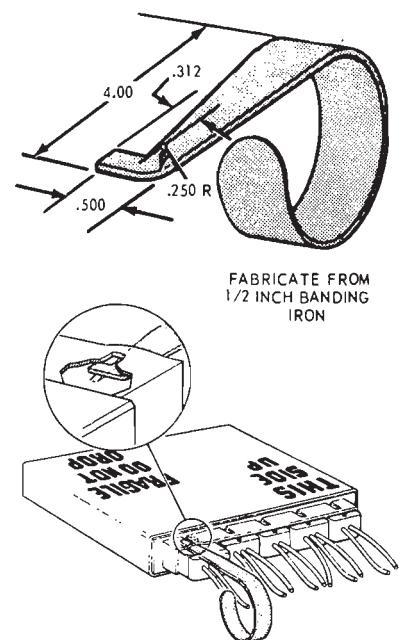
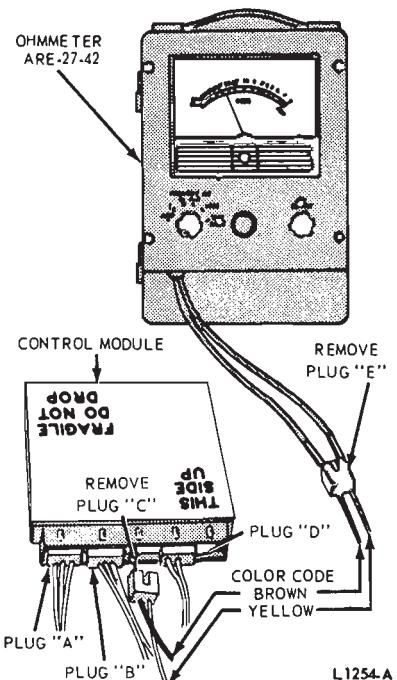
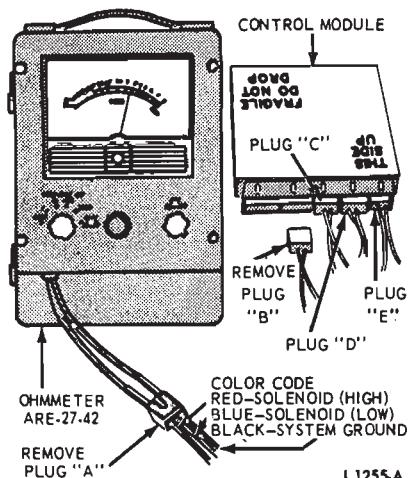
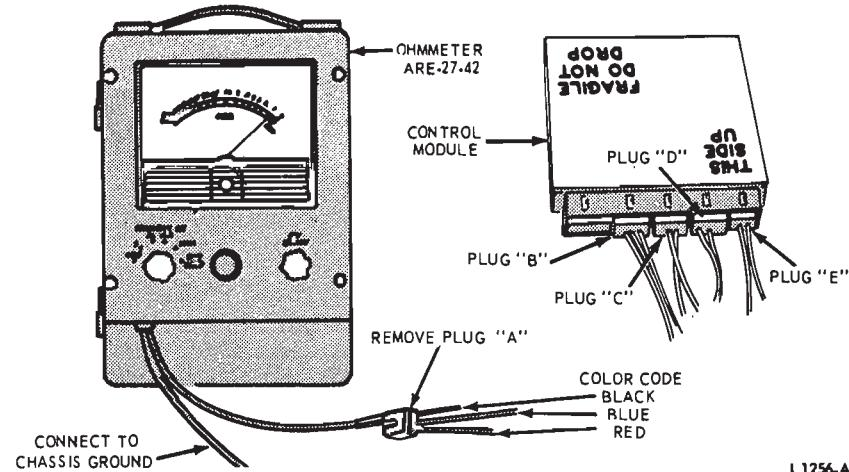

FIG. 6—Harness Connector Removal
FIG. 7—Testing Sensors
FIG. 8—Testing Solenoid Circuit
FIG. 9—Testing System Ground
1. Using the special tool (Fig. 6), remove the sensor plugs from the control module (plugs C and E, Fig. 7). **Be sure to calibrate the ohmmeter ARE 27-42 to the scale being used.**
2. Connect the ohmmeter between the two contacts of either sensor lead (Fig. 7). Resistance should be 1600-3200 ohms. For additional testing procedures, refer to the Car Electrical Diagnosis Manual.
1. Using the special tool (Fig. 6), remove the solenoid plug A and B from the control module (Fig. 8). By removing plug B the system grounds are eliminated and an accurate A resistance reading is obtained. **Be sure to calibrate the ohmmeter ARE 27-42 to the scale being used.**
2. Connect the ohmmeter between the solenoid (high) and (low) contacts in plug A (Fig. 8). Resistance should be 6 ± 2 ohms. For additional testing procedures refer to the Car Electrical Diagnosis Manual.
1. Using the special tool (Fig. 6), remove the actuator solenoid plug from the module plug A (Fig. 9). Be sure to calibrate the ohmmeter ARE 27-42 to the scale being used.
2. Disconnect the actuator solenoid and warning switch harness connectors from the control module as shown in Fig. 6.